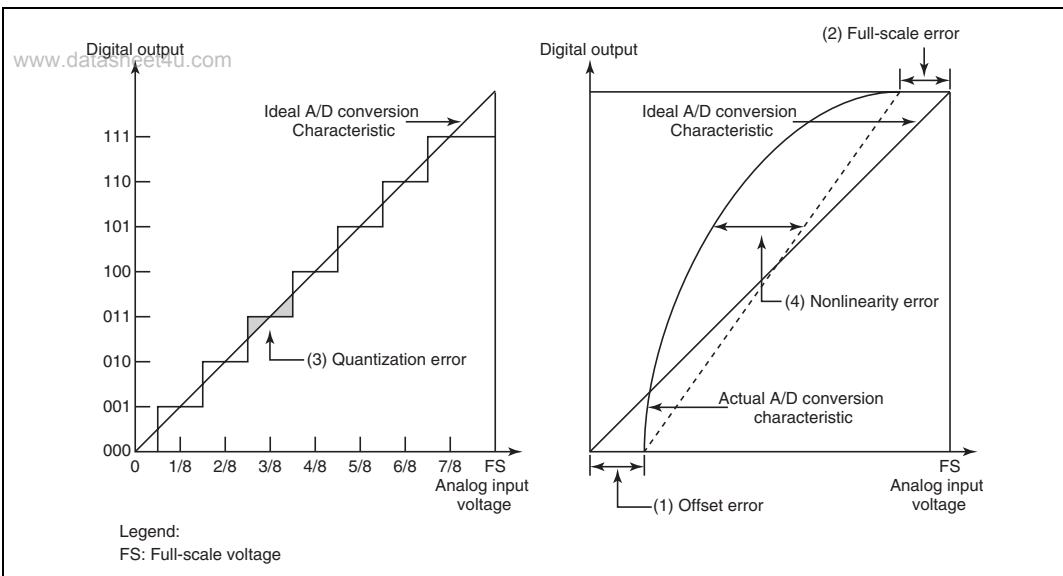

Figure 14.7 A/D Conversion Precision Definitions
- (1) Offset error
- (2) Full-scale error
- (3) Quantization error
- (4) Nonlinearity error
The above four kinds of error are described below with reference to figure 14.7. For the sake of clarity, this figure shows 3-bit mid-speed A/D conversion rather than 10-bit mid-speed A/D conversion. Offset error (see figure 14.7 (1)) is the deviation between the actual A/D conversion characteristic and the ideal A/D conversion characteristic when the digital output value changes from the minimum value (zero voltage) of 0000000000 (000 in the figure) to 0000000001 (001 in the figure). Full-scale error (see figure 14.7 (2)) is the deviation between the actual A/D conversion characteristic and the ideal A/D conversion characteristic when the digital output value changes from 1111111110 (110 in the figure) to the maximum value (full-scale voltage) of 1111111111 (111 in the figure). Quantization error is the deviation inherent in the mid-speed A/D converter, given by 1/2 LSB (see figure 14.7 (3)). Nonlinearity error is the deviation between the actual A/D conversion characteristic and the ideal A/D conversion characteristic from zero voltage to full-scale voltage (see figure 14.7 (4)). This does not include offset error, full-scale error, and quantization error.